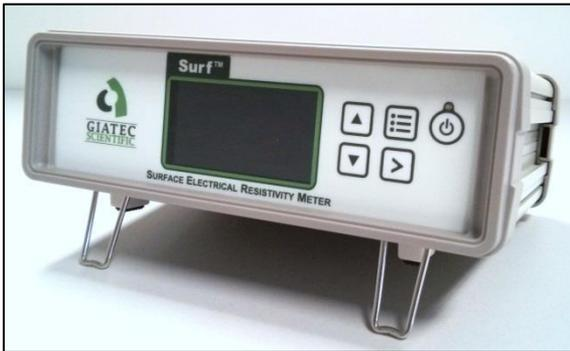
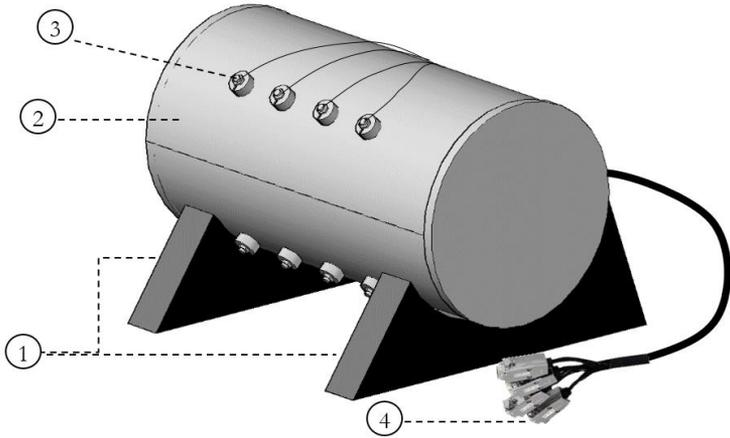

Figure 3: Surf™ Measuring Device
Figure 6: The Surf™ sample holder
Giatic Surf™ has two main components: A measuring device (Fig. 3), and a sample holder. (Fig. 6). The measuring device can be used as a stand-alone equipment to perform the tests. It can also be connected to a personal computer (PC) using the USB connection port. The Data Monitor software, provided in the package, controls the device and can be used to record the test data. In this section, the key functions of these components are described.